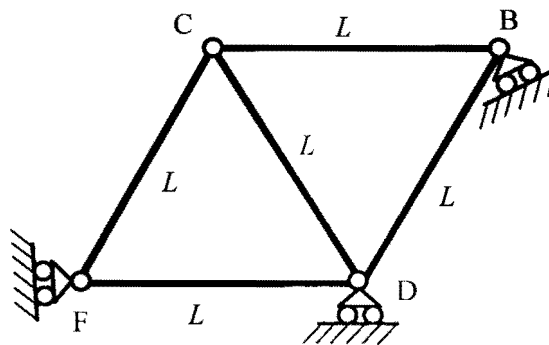

Fig. 6
- * 10. Figure 6 shows a truss made from members of equal length L . Joints B, D, and F are constrained to move only in one direction by means of roller supports, shown only schematically in the figure. Thus, joint D can move only along the direction FD, joint F only in a direction perpendicular to FD, and joint B only along the direction FB.